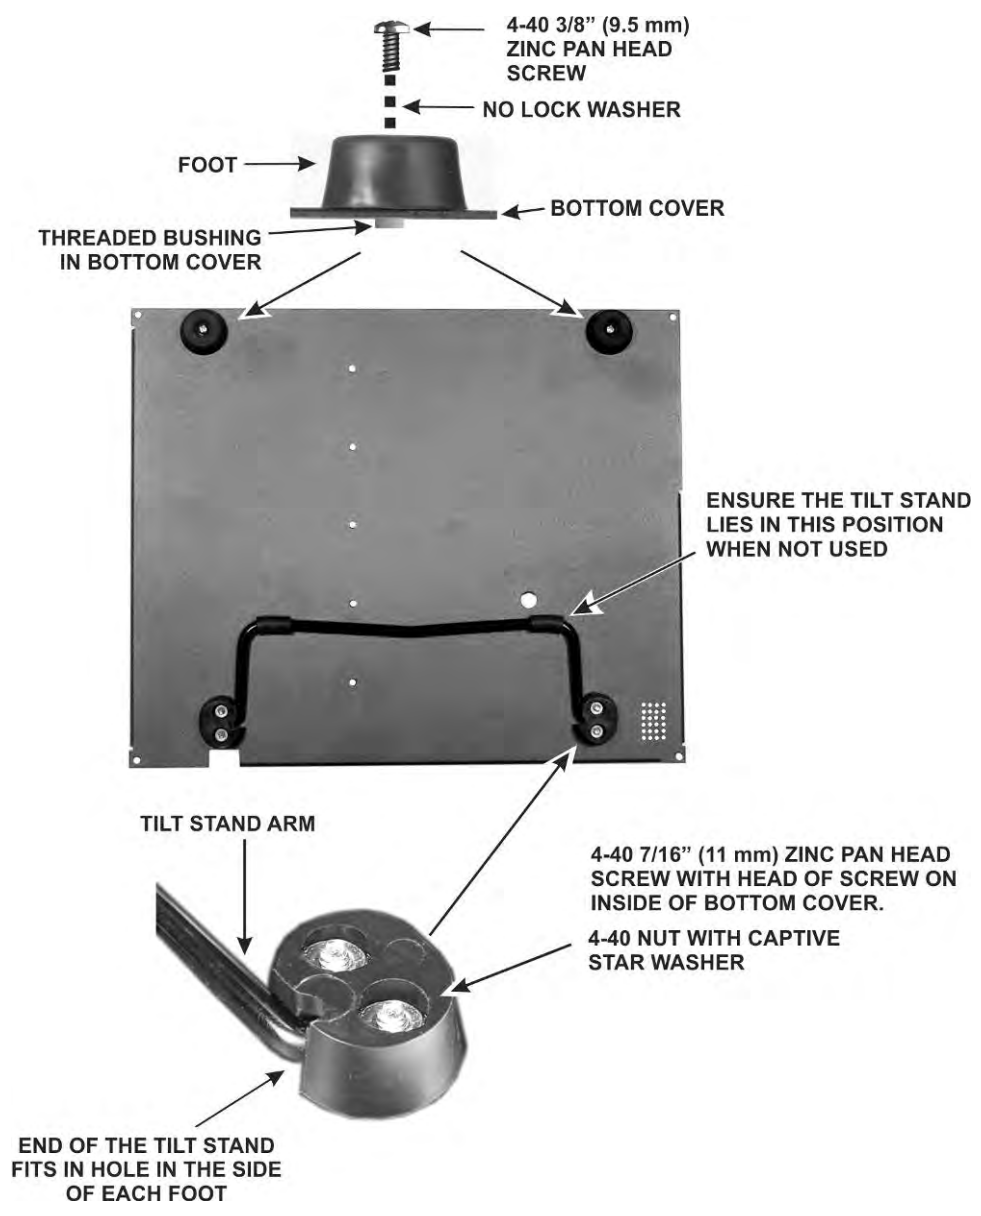

Figure 5. Installing Bottom Cover Feet.
Locate the bottom cover and install the tilt stand as shown in Figure 5.
Install the two rear feet as shown in Figure 5. Note that no lock washers are used and the screws thread into bushings permanently mounted in the bottom cover.
- Check to ensure the tilt stand lies as shown in Figure 5 when it is retracted.